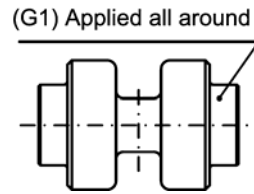

Figure 5-6 Applying Grease to Guide Roller
- 4) Apply (G1) grease to the shaft of (24) Guide Roller contacting the hole of (11) Frame B as shown in Figure 5-6.